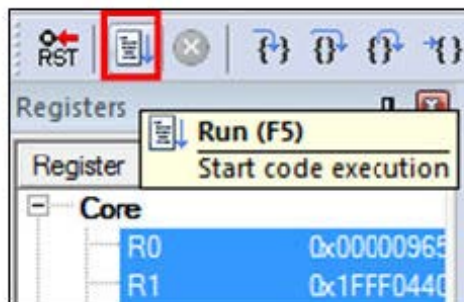

Figure 38. Run button
4. Run the code by clicking **Run** to start the application, as shown in Figure 38.